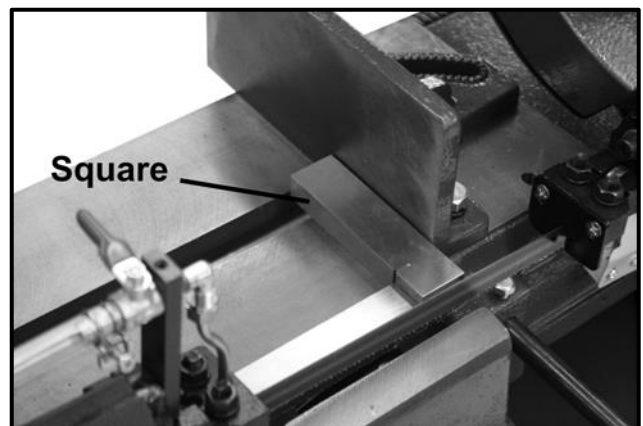

Figure-17 Squaring the vise to the blade
2. Place the square as shown in figure-17. The square should lie along the entire length of the vise and blade without a gap.